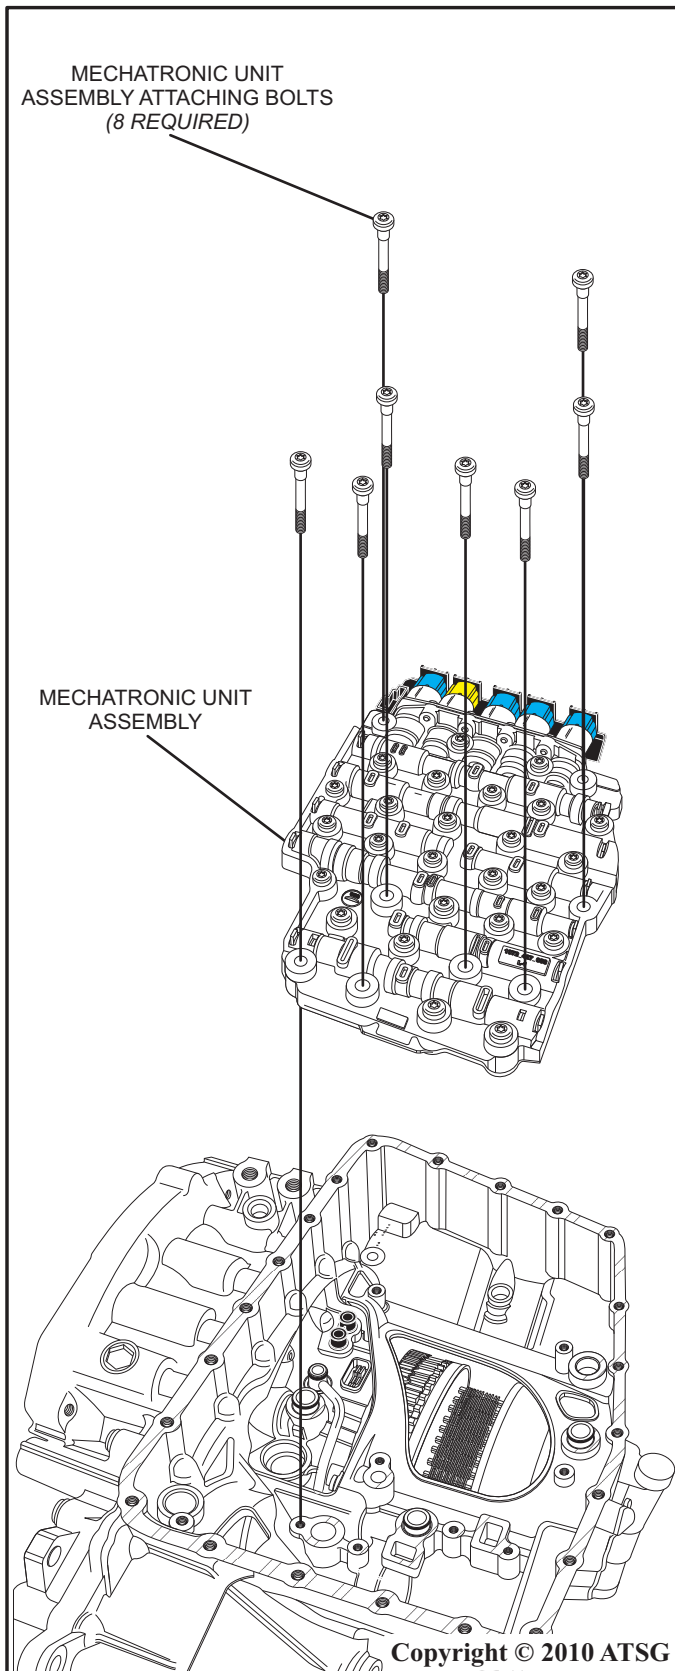

Figure 10
16. Using a #40 Torx bit, remove the mechatronic unit assembly attaching bolts (8 required) as shown in figure 10.